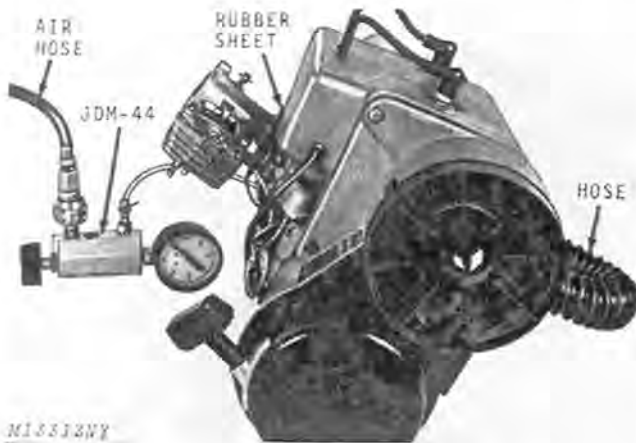

Fig. 23-Pressure Testing the Engine
Kohler Engines - Connect exhaust pipes using hose and clamps (supplied with JDM-44, Fig. 23).
2. Seal intake system by placing rubber sheet between carburetor and intake manifold, Fig. 23. Use carburetor gasket as a template to cut stud holes in rubber sheet.